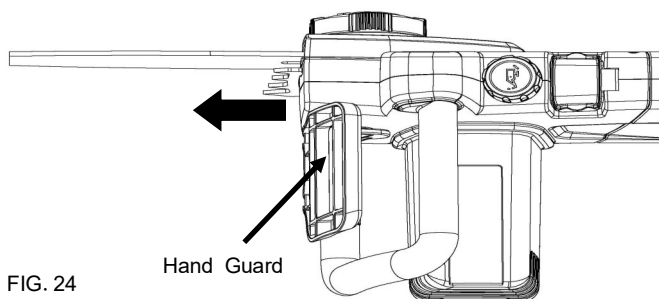

FIG. 24
■ Using the back of your left hand, engage the chain brake by pushing the chain brake / hand guard toward the bar while the chain is rotating rapidly. (Fig. 24)